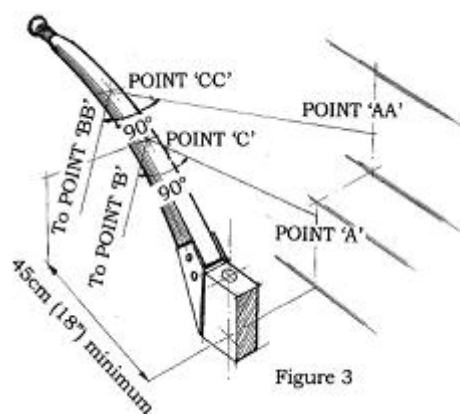

Figure 3
### For boats with 'inboard' rudders (see Figure 3)
- a) It is important to get points 'A', 'B' and 'C' in Figure 3 so that the rope makes about a 90° angle at 'C'